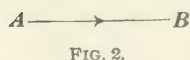

FIG. 2.
81. According to Art. **44**, in order that forces may be compared with one another, three conditions must be fulfilled. These conditions may all be represented by a line; hence, we may represent forces by lines. Thus, in Fig. 2, let A be the point of application of the force, let the length of the line AB represent its magnitude, and let the arrowhead indicate the direction in which the force acts; then, the line AB fulfils the three conditions and the force is fully represented.